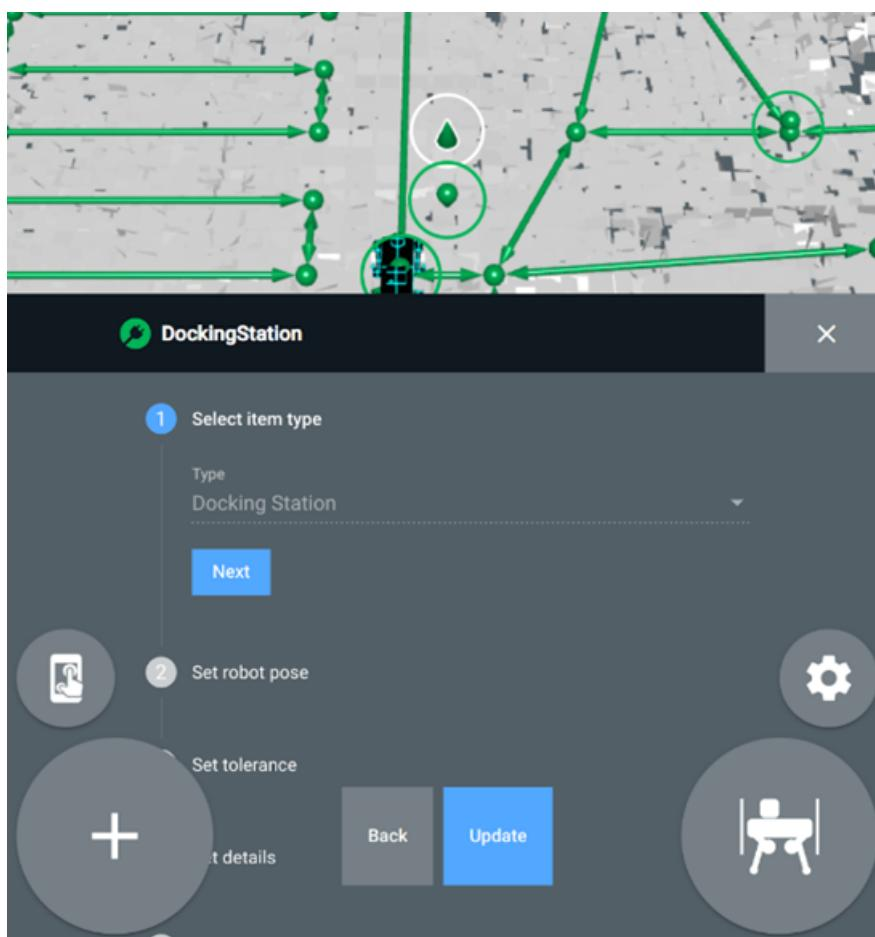

Figure 35 - Edition page
3. From the edition page (see Figure 35), you can do the following: